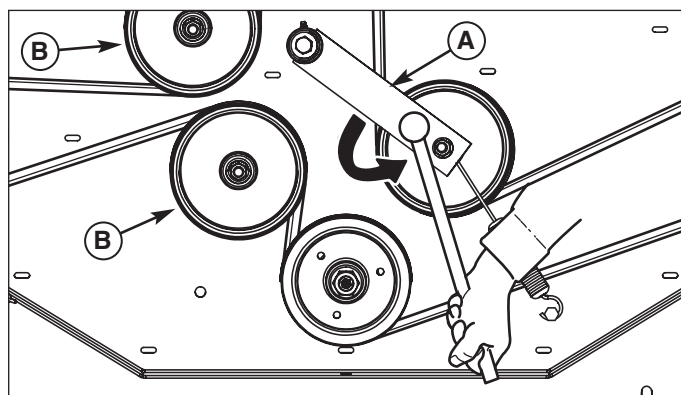

Figure 21. Mower PTO Belt
4. If the belt is not properly seated, use a 1/2" breaker bar, and place the square end in the square hole located in the end of the idler arm (A, Figure 21). Carefully rotate the breaker bar counter clockwise, which will relieve the tension on the belt exerted from the idler arm.